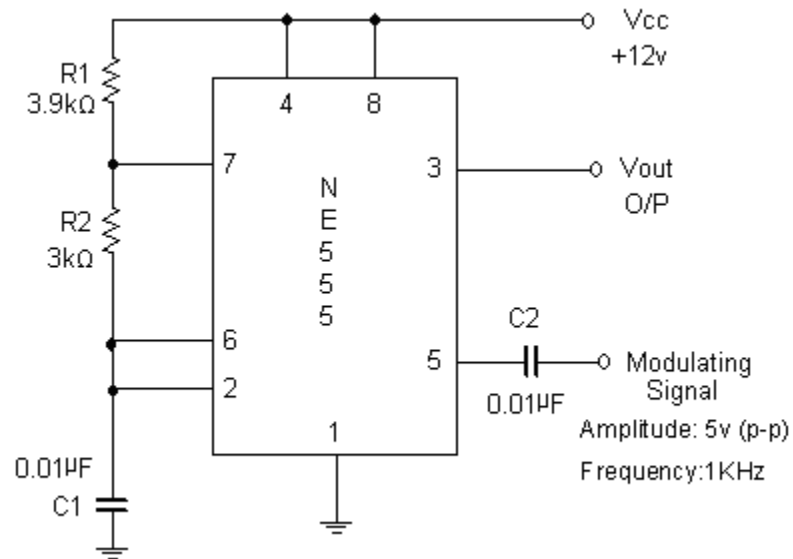

Fig: 1 Pulse Position Modulation Circuit
1. Connect the circuit as per circuit diagram as shown in the fig 1.